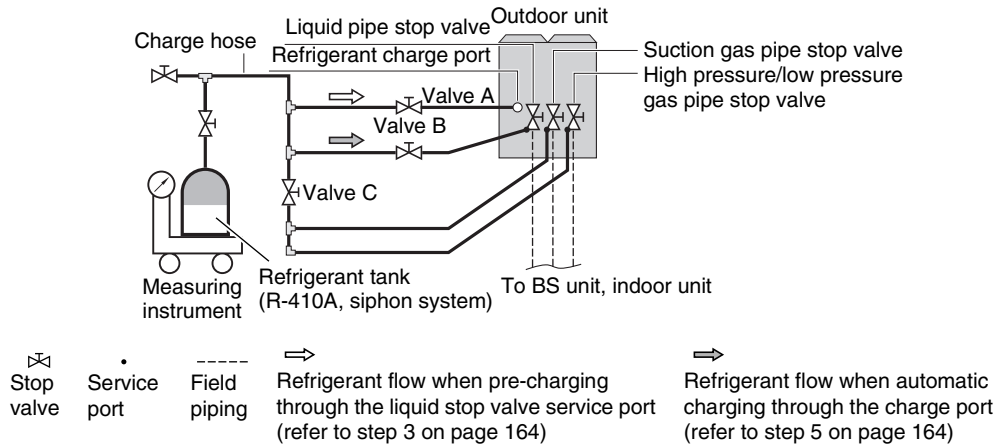

figure 23
(See figure 23)
5. After pre-charging, perform the refrigerant charge operation as shown below and charge the remaining refrigerant of the additional charging amount through valve A. (See figure 23)